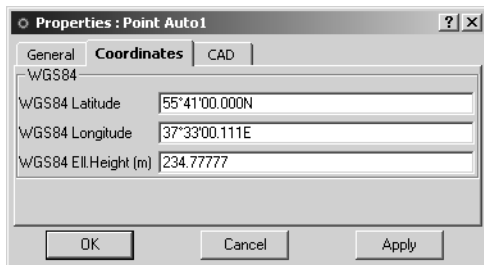

Figure 4-48. Point Properties – Coordinates Tab
2. On the **Properties** dialog box, click the *Coordinates* tab (Figure 4-48 on page 4-34).